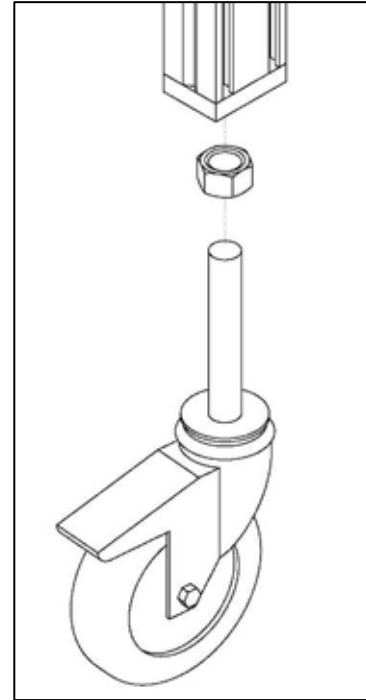

Figure 1
❶ Install Casters to Aluminum or Steel Stands
b. Install the Casters by threading the 4 1/2" stem into the base of the stand where the Leveling Foot was previously. The Caster will have its own 3/4-10 Hex Nut (**Figure 1**).